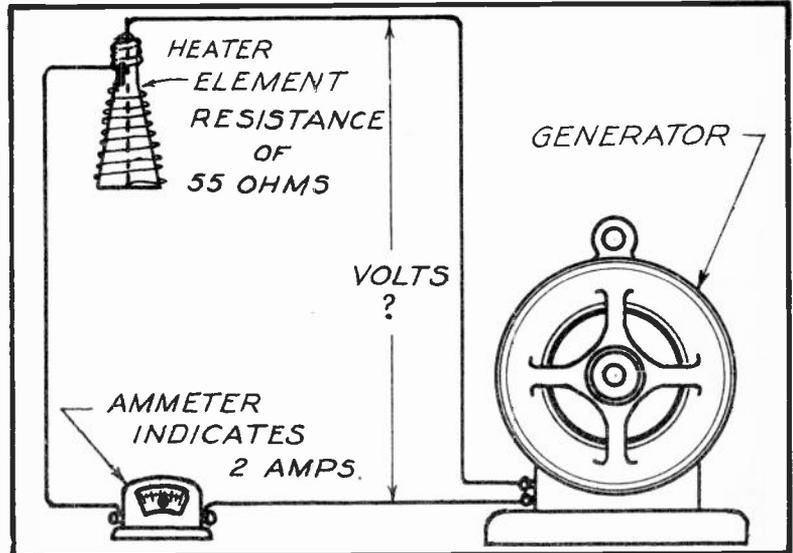

FIG. 8
**EXAMPLE #3:** IN THE CIRCUIT ILLUSTRATED IN FIG. 8 THE HEATER ELEMENT HAS A RESISTANCE OF 55 OHMS AND THE AMMETER SHOWS THAT A CURRENT OF 2 AMPERES IS FLOWING THROUGH THE RESISTANCE. WHAT VOLTAGE IS PRODUCED BY THE GENERATOR?